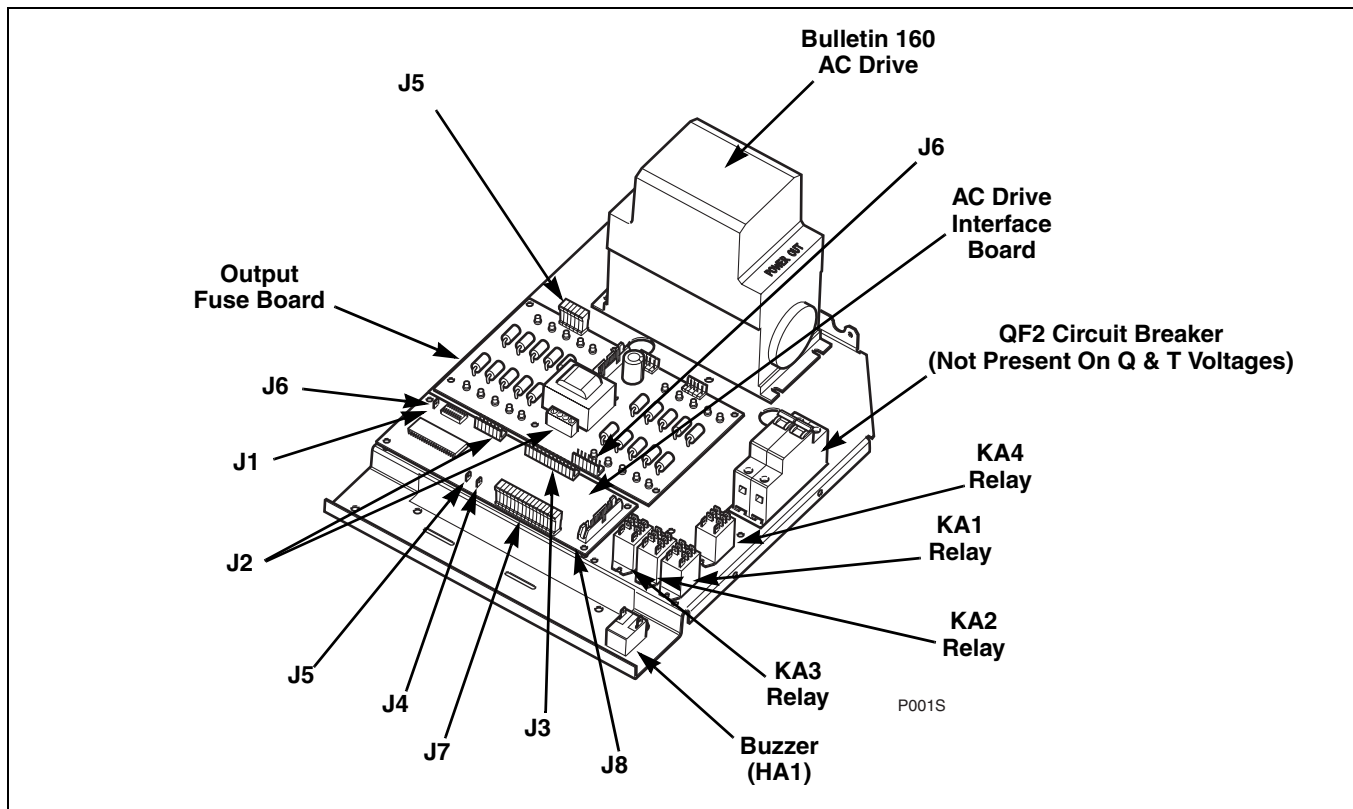

Figure 1
- d. Check the input plug, J-2, on the computer board. Refer to *Figure 1*.